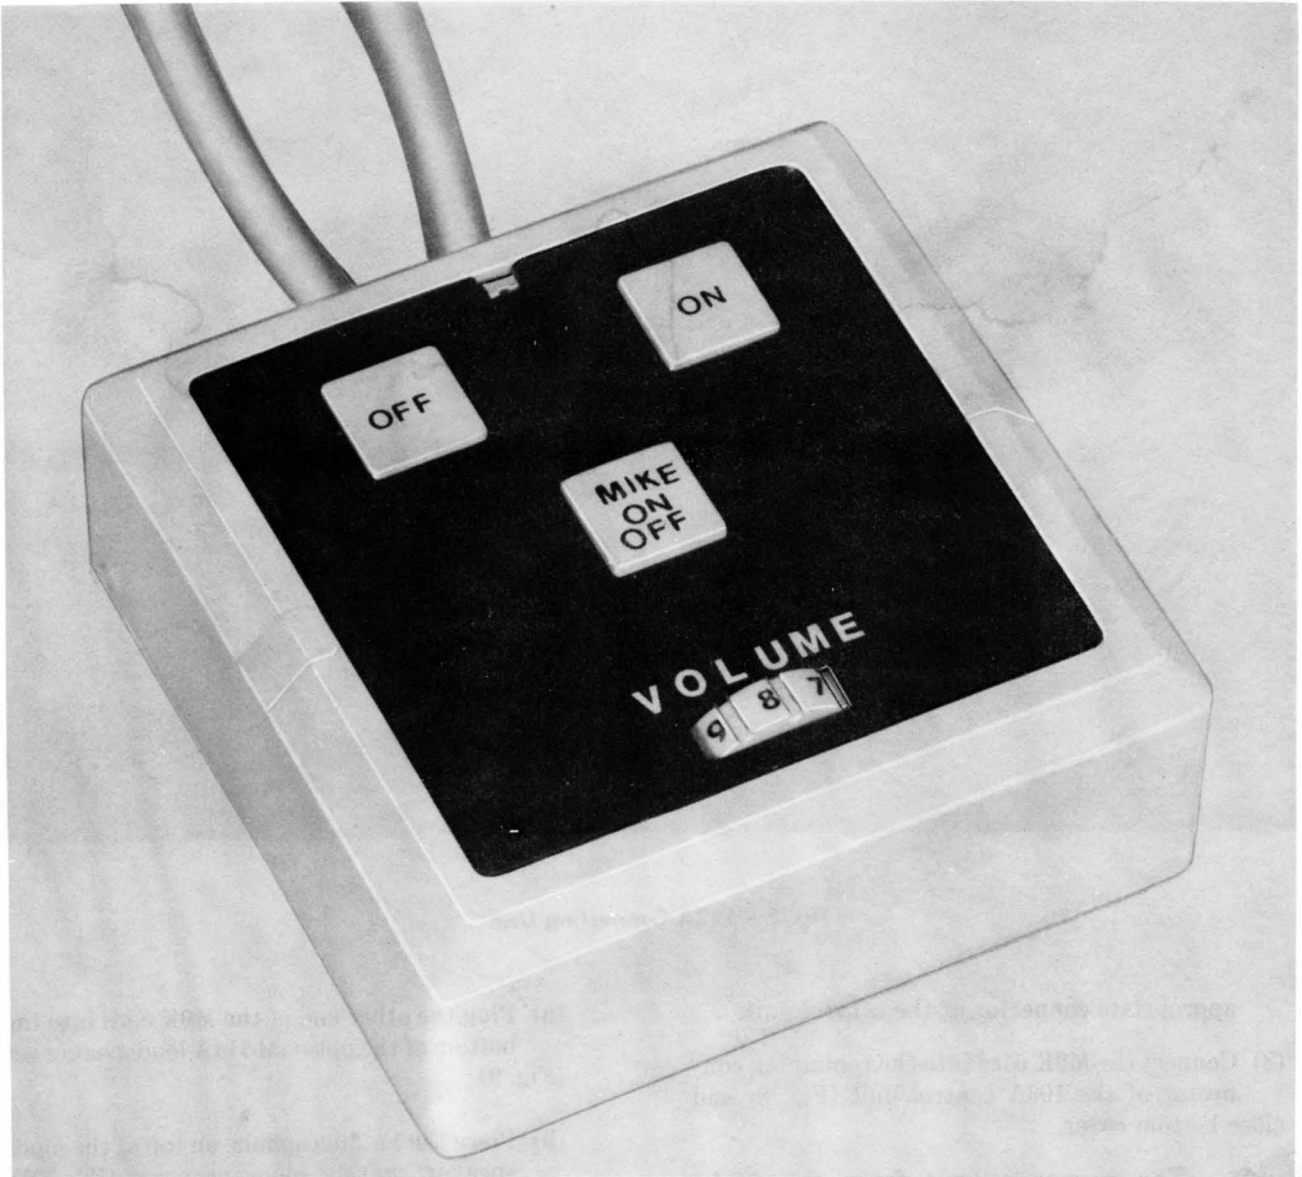

Fig. 4—106A Control Unit
2.03 The 106A control unit (ivory with black faceplate) contains a volume control potentiometer, ON and OFF pushbuttons with associated LED, and an electronic locking (MIKE ON OFF) button (Fig. 4).